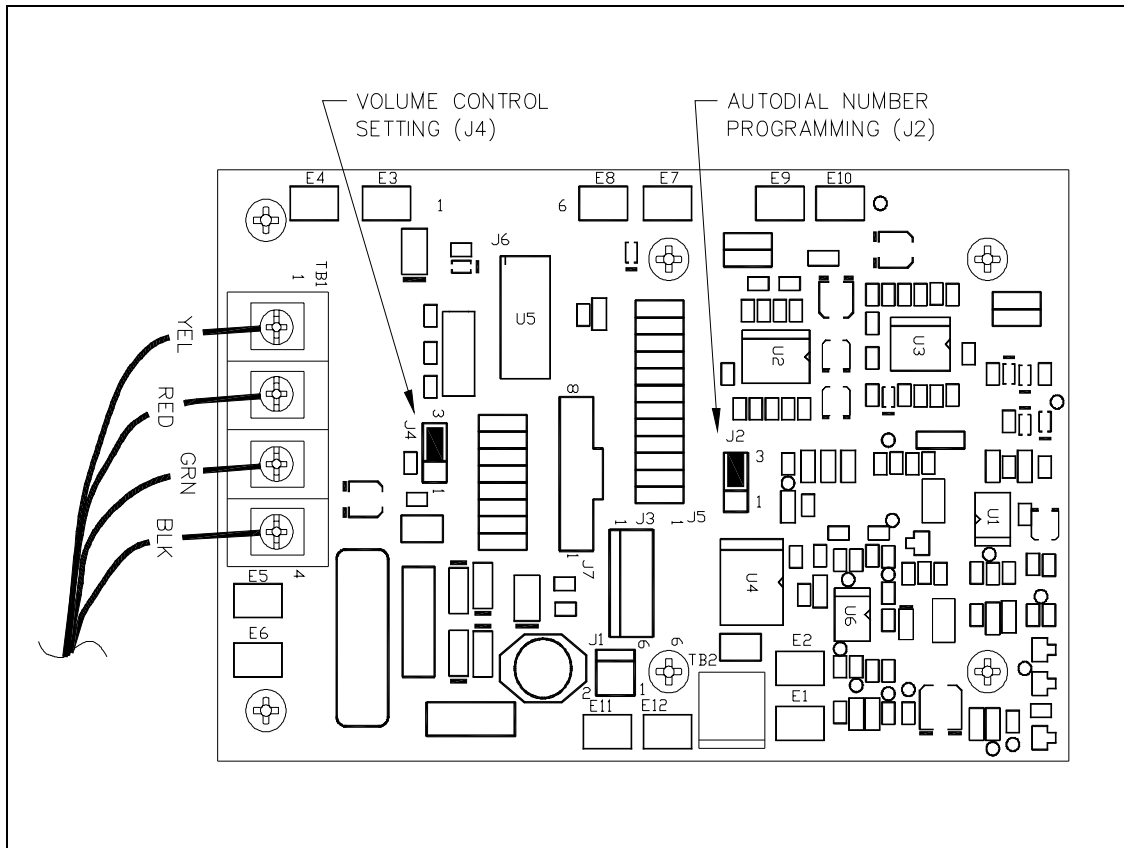

Figure 1. Auto-Dial Telephone PCBA Jumper Locations
3. Reconnect the modular telephone cord to the printed circuit board terminal strip. Refer to Figure 1 on page 3.
5. Reconnect the modular telephone cord to the printed circuit board terminal strip. See Figure 1 for details.